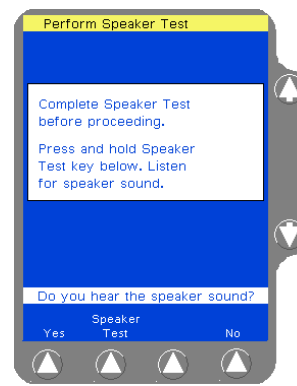

Figure 11-1 Speaker Test Screen
2. Press and hold the **Speaker Test** soft key until **Yes** and **No** soft keys are displayed (Figure 11-1). The pump produces sound for as long as the **Speaker Test** soft key is pressed.